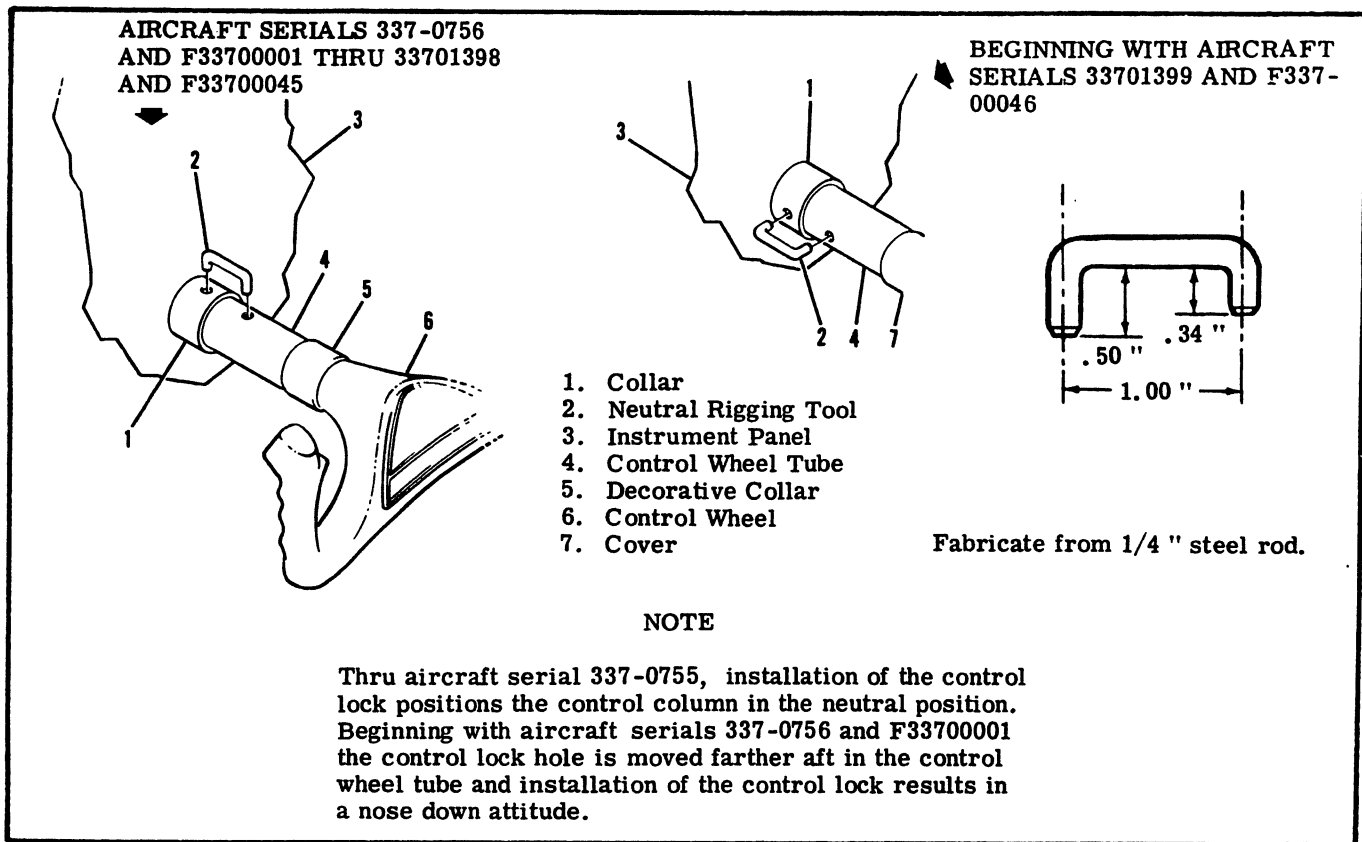

Figure 8-5. Control Column Neutral Rigging Tool
- b. Remove left wing strut fairings as necessary to expose turnbuckles (8).
- c. Lock pilot's control column in neutral position in accordance with instructions in figure 8-5.